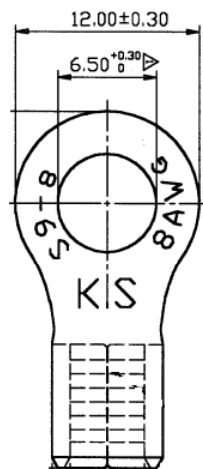

Figure 2-4
3. Figure 2-4 shows the suggested specification of O type terminal.